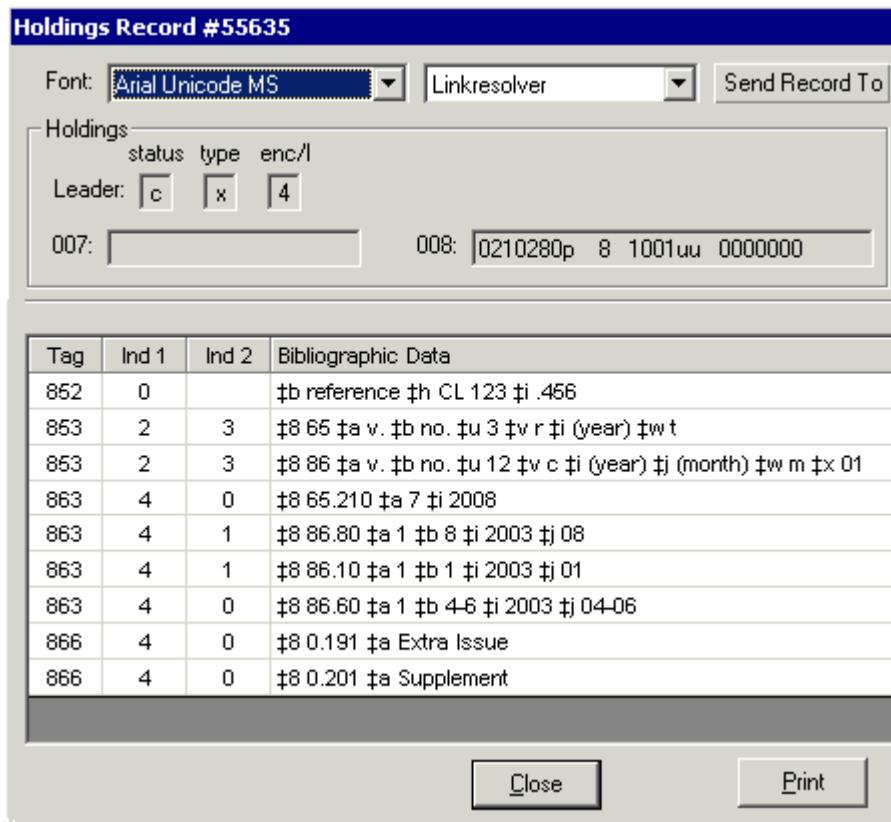

Figure 9-34. MARC holdings record after collapsing issues
*Result: The MARC holdings record has a new 853-863 pair (see Figure 9-34). Close this dialog box by clicking the **Close** button.*